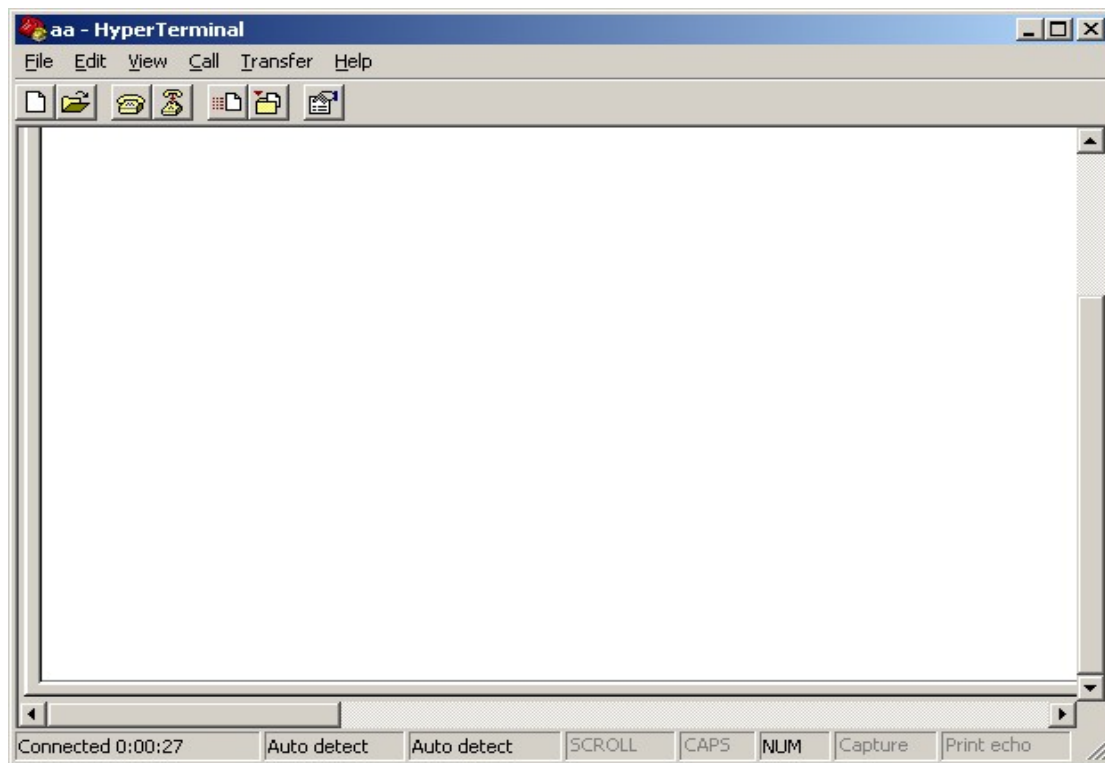

Fig. 3.1.4 Hyper Terminal Interface
finish, the Hyper Terminal interface like Fig. 3.1.4 will appear
Step 1: Enter into the Hyper Terminal. Click “Start”→ “Programs”→ “Accessories”→ “Communications”→ “Hyper Terminal”→ “aa.ht”, the Hyper Terminal interface in Fig. 3.1.4 will appear.